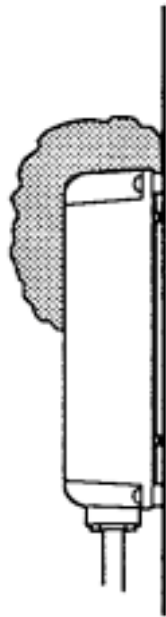

Figure 5.3: Dust accumulates on top of the read/write head and drops to its front side.
2. When cutting dust settles on the upper side of the data carrier or the read/write head, it may drop on their front sides and considerably reduce the transmission distance (see figure 5.3).